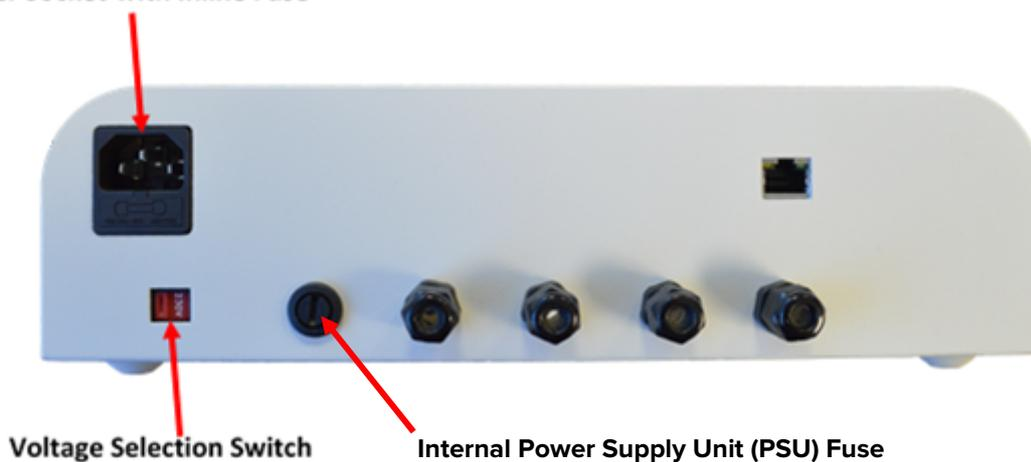

Figure 2 - Underside of Unit
7. Select the correct local Mains voltage using the Voltage Selection switch on the underside of the Unit (115 or 240 Volts); see Figure 2 above.